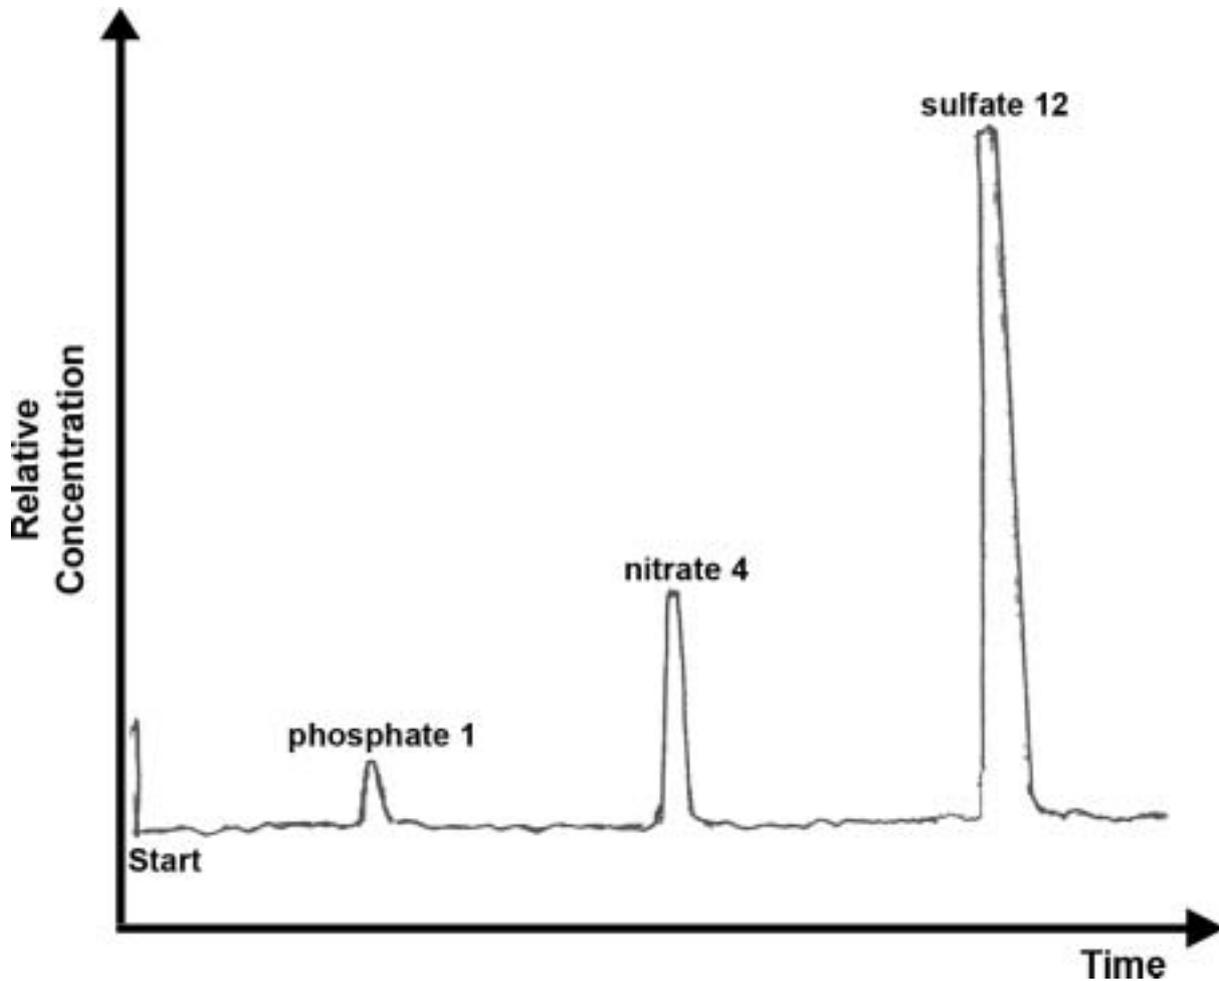

Fig. 1.2
- (iv) The electrical signal from the detector shown in Fig. 1.1 produces a series of peaks showing the relative concentrations of each ion present, given as numbers in Fig. 1.2.